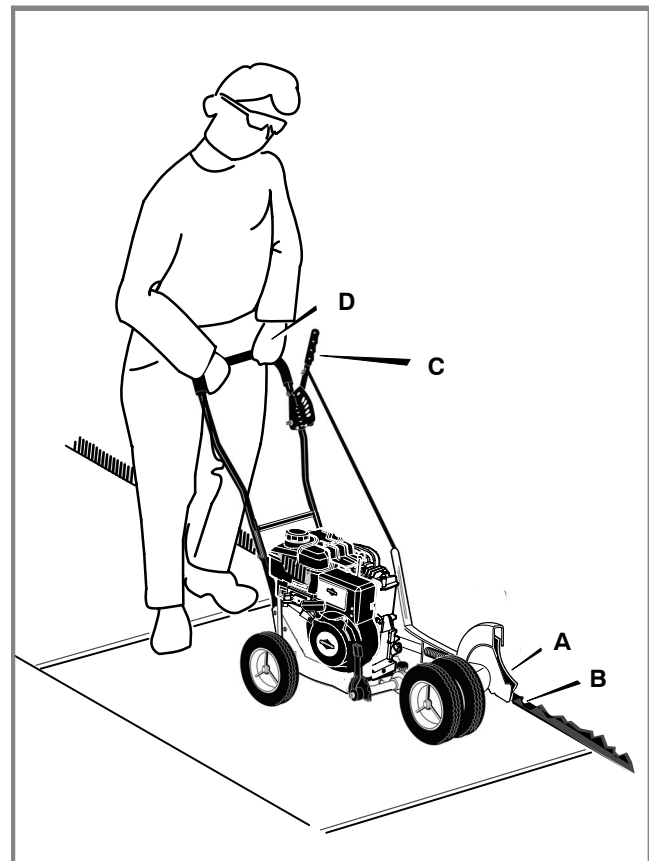

Figure 20: Operation Of Edger
- 1 Before you start the engine, move the depth control lever (C) back until the blade (A) will not contact the ground.
- 2 When edging along a concrete driveway or sidewalk, set the wheels on the concrete and position the blade along the left side of the driveway. To position the edger on a curb, see the "Curb-hop feature" section. To keep the blade from hitting the driveway, make sure to keep the blade guide (B) aligned with the side of the driveway (see Figure 20).
- 5 Stand behind the edger and firmly hold the handle (D). See Figure 20. As the blade begins to cut, slowly move forward.